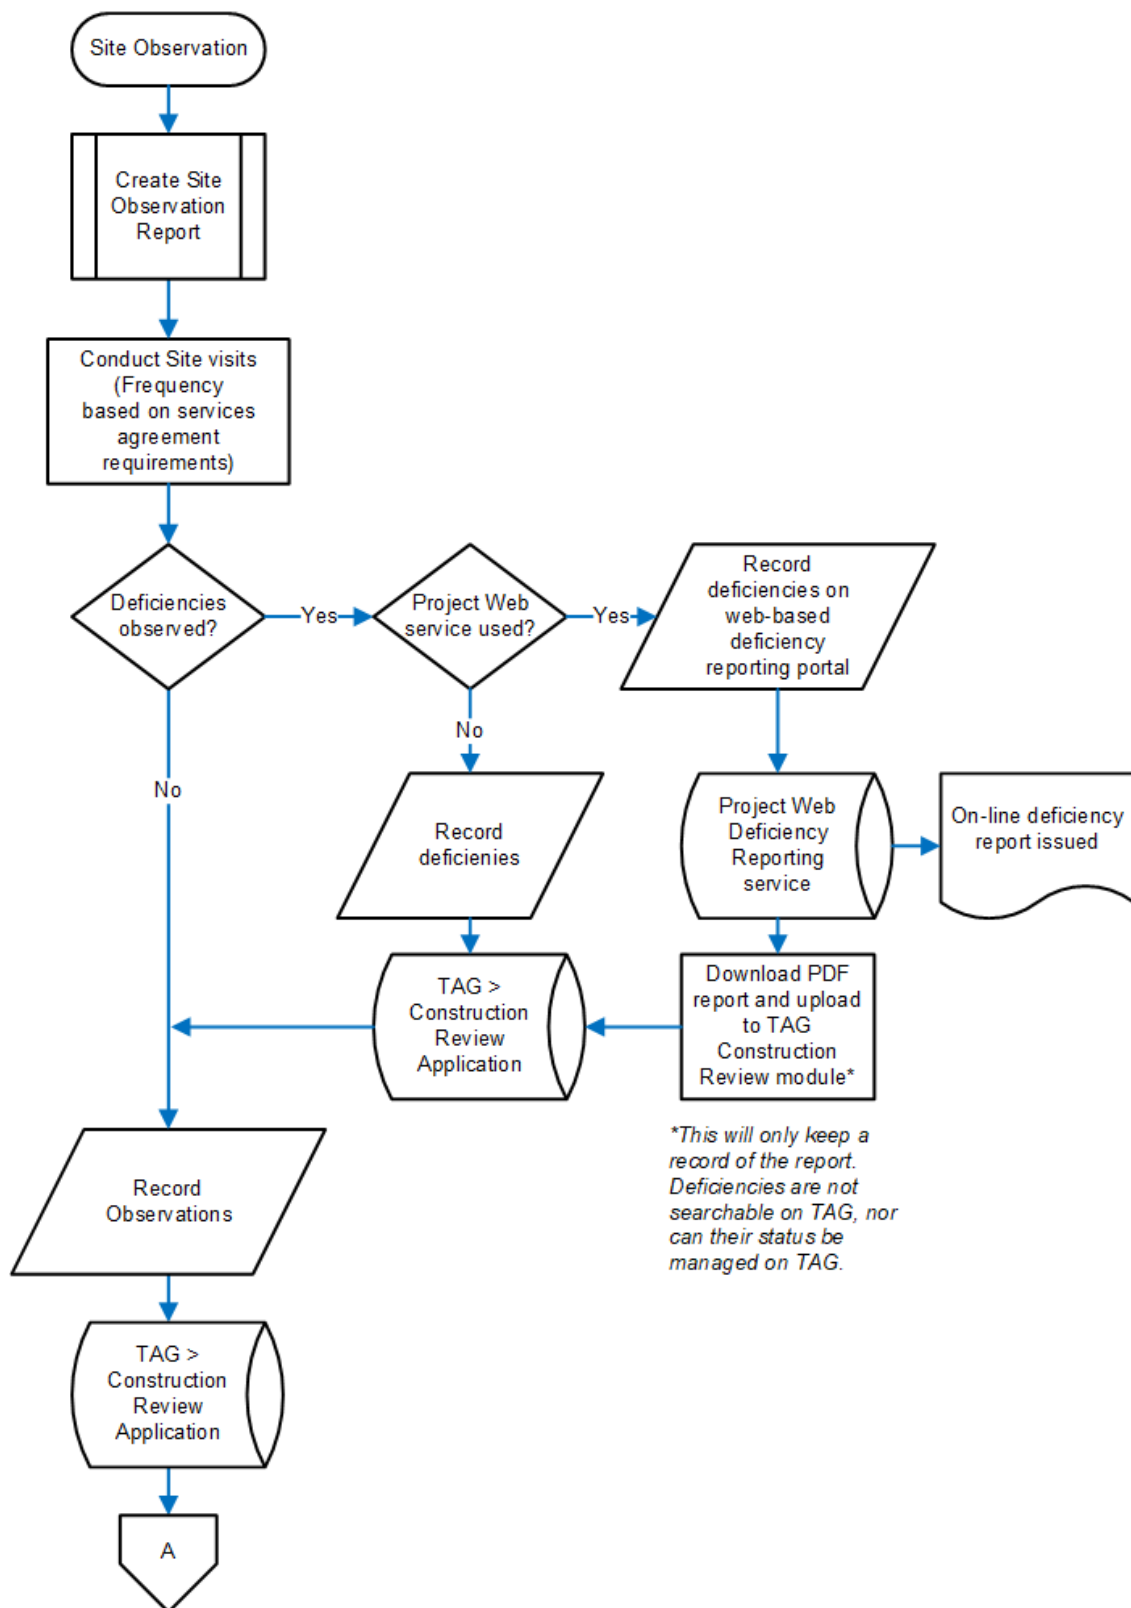

Figure 1: Site Observation – Creating Report
2.01.02 Site Observation reports are processed through the TAG Project Services > Construction Review database system (see figures 1 and 2). This automated process allows;